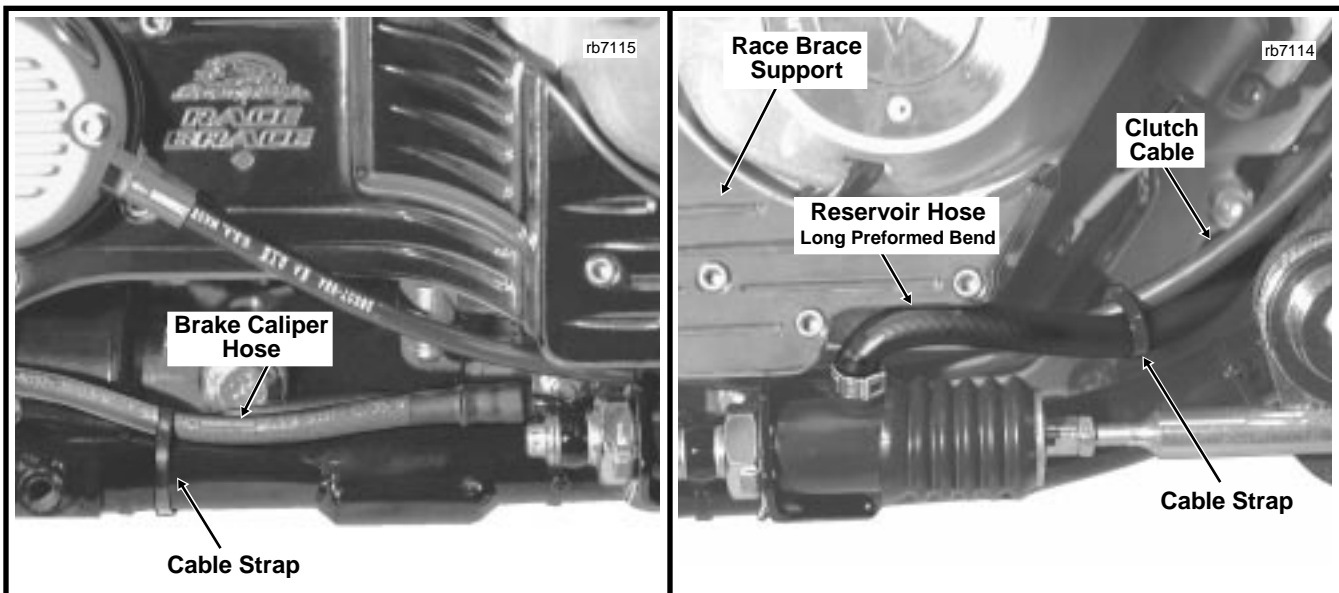

Figure 2. Proper Hose Routing/Cable Strap Locations (FXST)
12. Install hose onto fitting at top of master cylinder. To prevent kinking of hose at bottom of race brace support, hose must be flipped 180 degrees from its original position, so that end with long preformed bend is on the master cylinder side. See right frame of Figure 2.
16. Install **new** cable strap (Part No. 10006) to secure reservoir hose to clutch cable. See right frame of Figure 2.
17. Install **new** cable strap (Part No. 10006) to secure brake caliper hose to lower frame tube. See left frame of Figure 2.